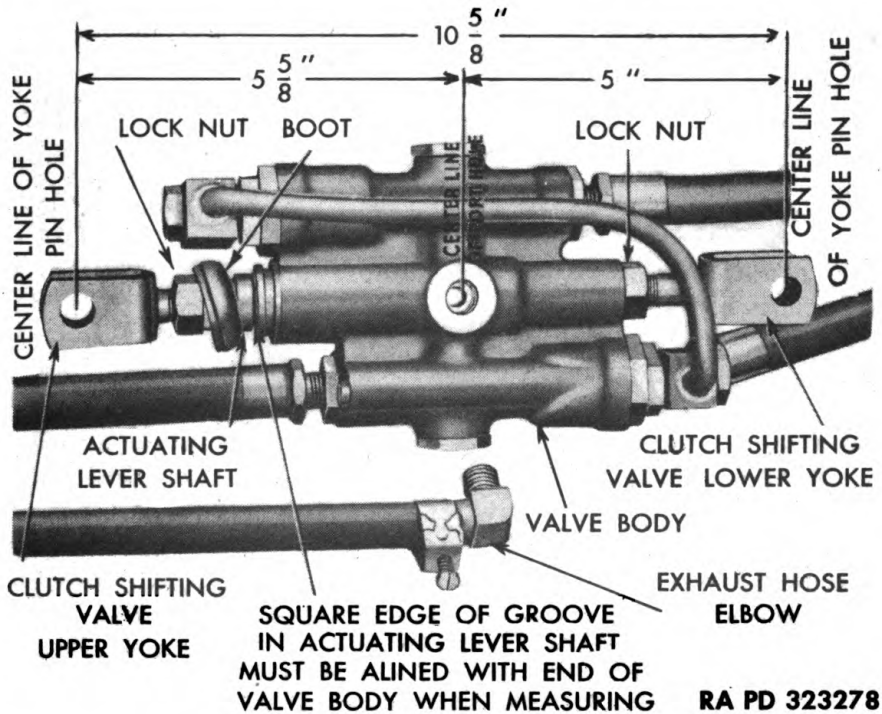

Figure 214 — Yoke Adjustment of Clutch Shifting Valve
(2) **YOKES** (fig. 214). Screw lower yoke into valve body until it measures 5 inches from center of exhaust port on side of valve body to center of pin holes in yokes. Tighten lock nut. Screw other upper yoke into actuating lever shaft until it measures $5\frac{5}{8}$ inches from center of exhaust port to center of pin holes in yoke when square edge of groove in actuating lever is aligned with end face on valve body. Tighten lock nut. Check by measuring distance between centers of